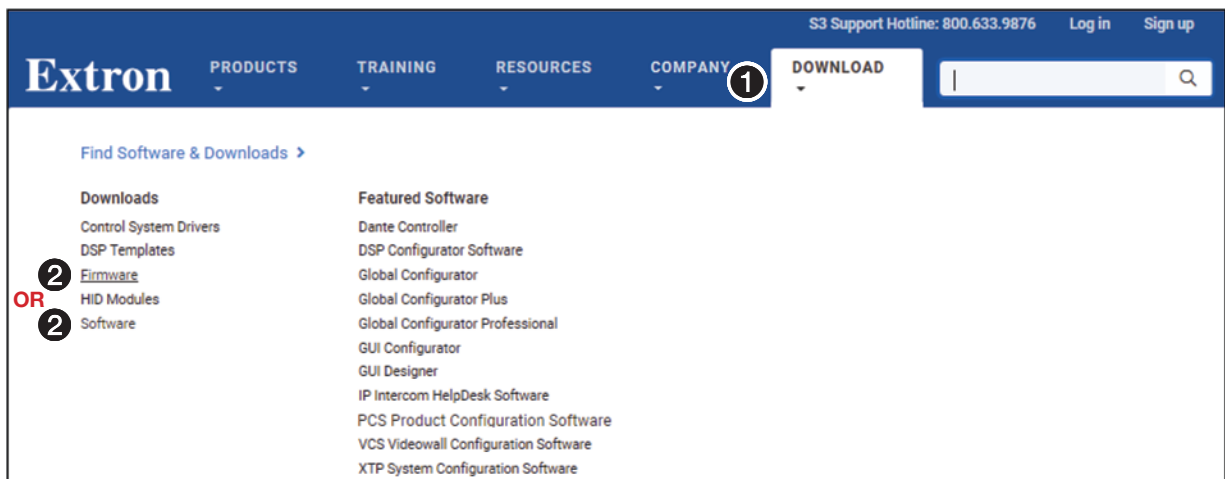

Figure 118. Selecting the Download Tab
1. Go to www.extron.com and momentarily rest the cursor over the **Download** tab (see figure 118, ❶). The Find Software & Downloads links appear.